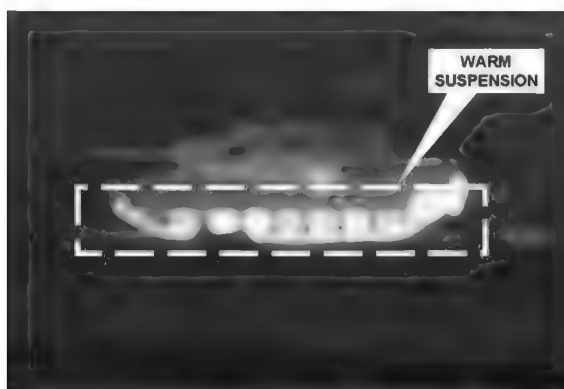

Figure E-4. Heat caused by friction.
(3) **Friction.** Friction produces heat by rubbing objects together. For example, when you rub your hands together very quickly, friction causes your hands to warm up, which causes them to give off more IR. The same reaction occurs when a vehicle moves. Its suspension and motion mechanism (tires or tracks) creates friction moving against themselves or against the ground causing the suspension parts to warm up and produce IR (Figure E-4).